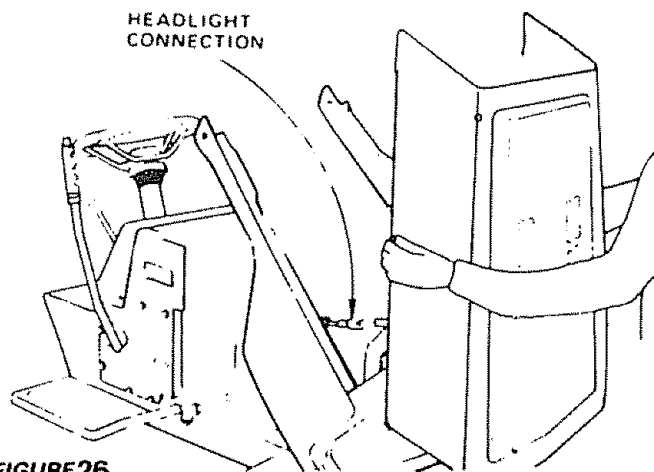

FIGURE 26
- Unsnap headlight connection (Fig. 26).
- Stand in front of tractor. Grasp hood and tilt forward and lift off (Fig. 26).